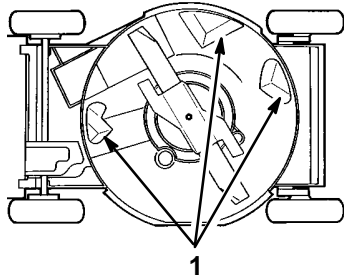

Figure 23
To ensure best performance, keep the underside of the mower housing clean. Be especially careful to keep the kickers free of debris (Fig. 23).
3. Tip the mower on its left side with the air filter up (Fig. 23).